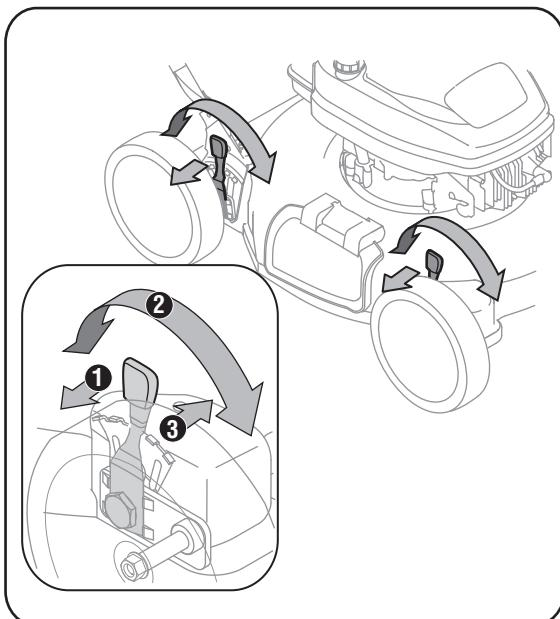

Figure 5
- Each wheel has a height adjustment lever to change the cutting height of the mower. To change the height of cut, squeeze adjuster lever toward the wheel, moving up or down to selected height. See Figure 5.